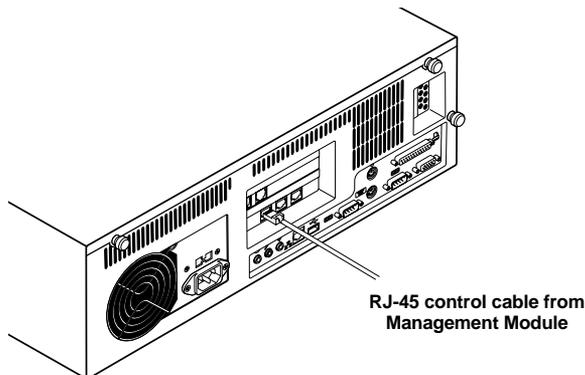

Figure 3-9. Attaching the same cable to the ServLINK.
3. Plug the other end of this cable into the port marked "DATA" on your ServLINK's Access Card, as shown in Figure 3-9.